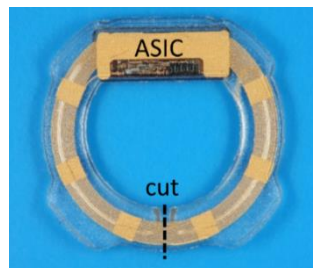

Figure 3: Proposed location for cutting the micro-coil.
- The easiest point for cutting the micro-coil is shown in figure 3. This is the thinnest section of the coil. However, if the implant ASIC is not at 12 o'clock position and it is unpractical to make the corneal incisions at locations described above, consider cutting the implant micro-coil at either side of the ring, in between the two haptics. Avoid cutting the haptic region and never attempt to cut the ASIC.